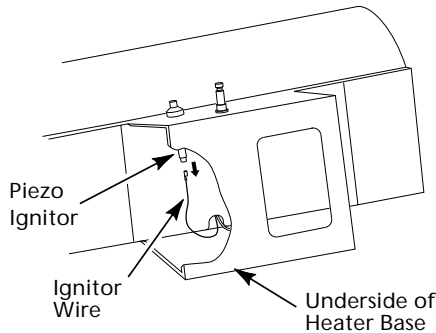

Figure 14 - Removing Ignitor Wire From Piezo Ignitor
- Remove black ignitor wire from piezo ignitor. Access ignitor wire through underside of heater base (See Figure 14). Push wire up through notch in filler panel.